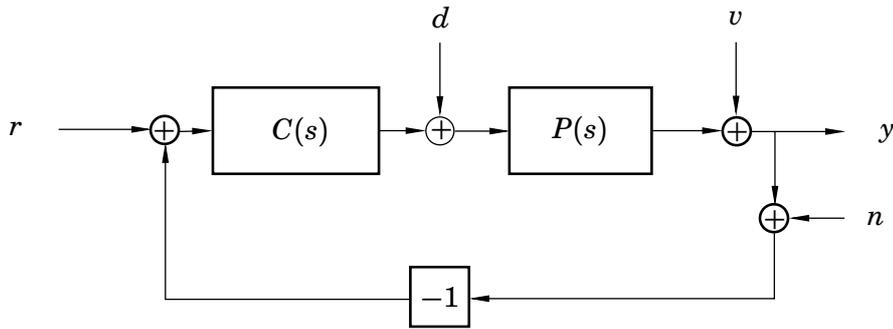

Figure 6.5 System in Problem 6.6
6.6 A multi-variable system (block diagram in Figure 6.5) is supposed to attenuate all output load disturbances (v) with at least a factor 10 for frequencies *below* 0.1 rad/sec. Constant output load disturbances should be attenuated by at least a factor 100 in stationarity.